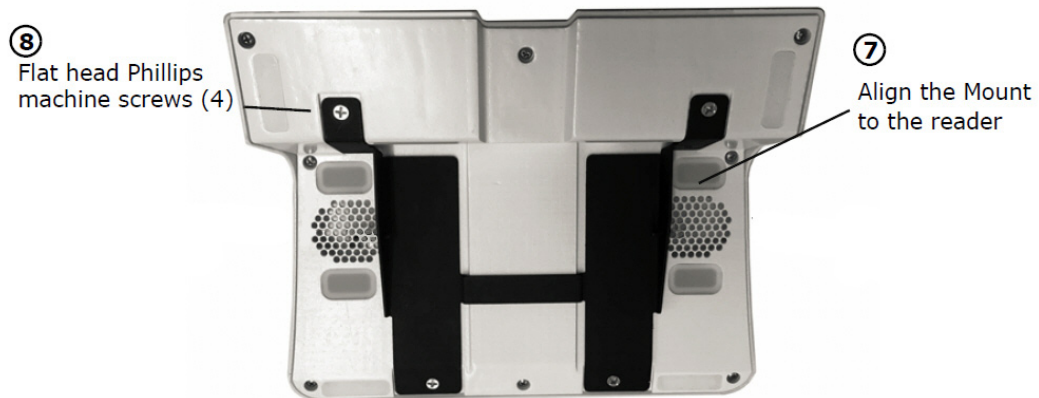

Figure 1-9 PR5000 Mount and Reader
- 8 Align the Mount with the reader as shown in Figure 1-9.
- 9 Attach the Mount to the reader using the 6-32 X 1/4 SS Flat Head Phillips machine screws (4).